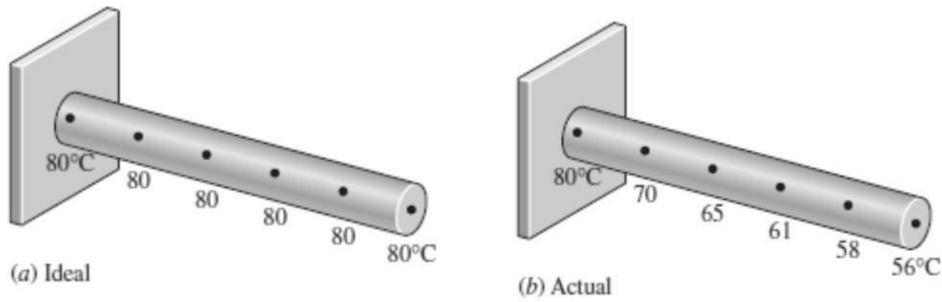

Fig. 3.7 Ideal and actual temperature distribution in a fin
- A fin will be most effective, i.e., it would dissipate heat at maximum rate if the entire fin surface area is maintained at the base temperature as shown in figure 3.7